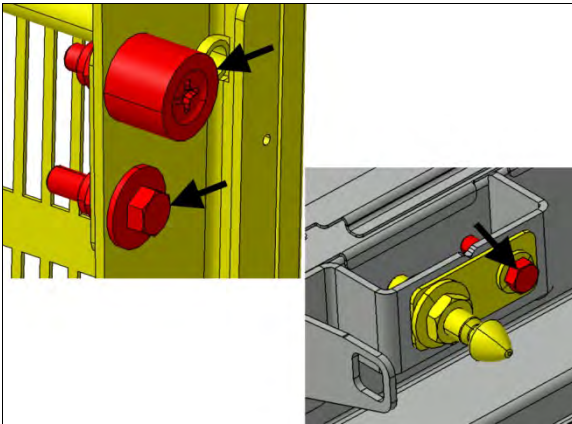

FIGURE 131
- Open the door and perform a final tightening to the items indicated with arrows (FIGURE 131).